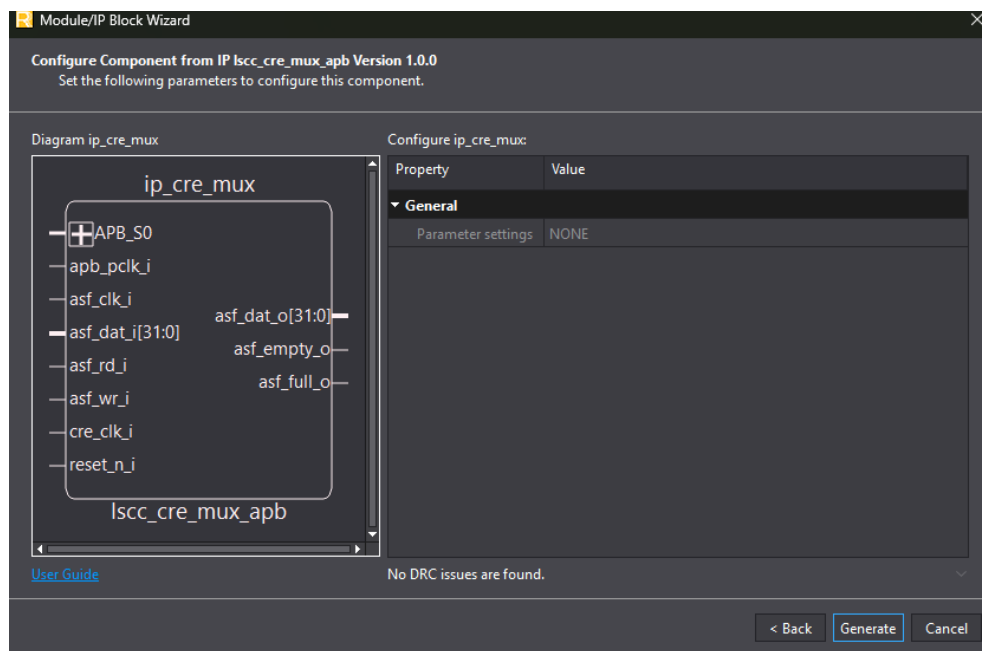

Figure 5.2. IP Configuration
5. Customize the selected <IP NAME> IP using drop-down lists and check boxes. Figure 5.2 shows an example configuration of the <IP NAME> IP.